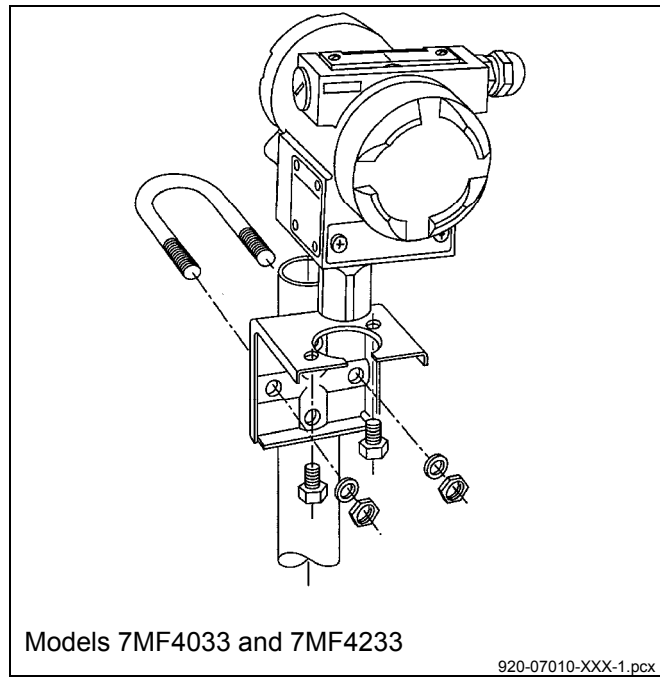

FIGURE 4-11 Pipe Mounting, Gauge Construction
This section describes the mechanical installation of a transmitter and the installation of electrical conduit for wiring. Transmitter dimensions are given in Figures 9-1 through 9-4. Related mounting information for optional mounting bracket kits is provided in Figures 4-11, 4-12, and 4-13. Table 1-1 correlates measurement, model number, measuring cell, and figure number.
- See Figure 4-11 for Absolute Pressure Models 7MF4033 and 7MF4233, gauge construction.